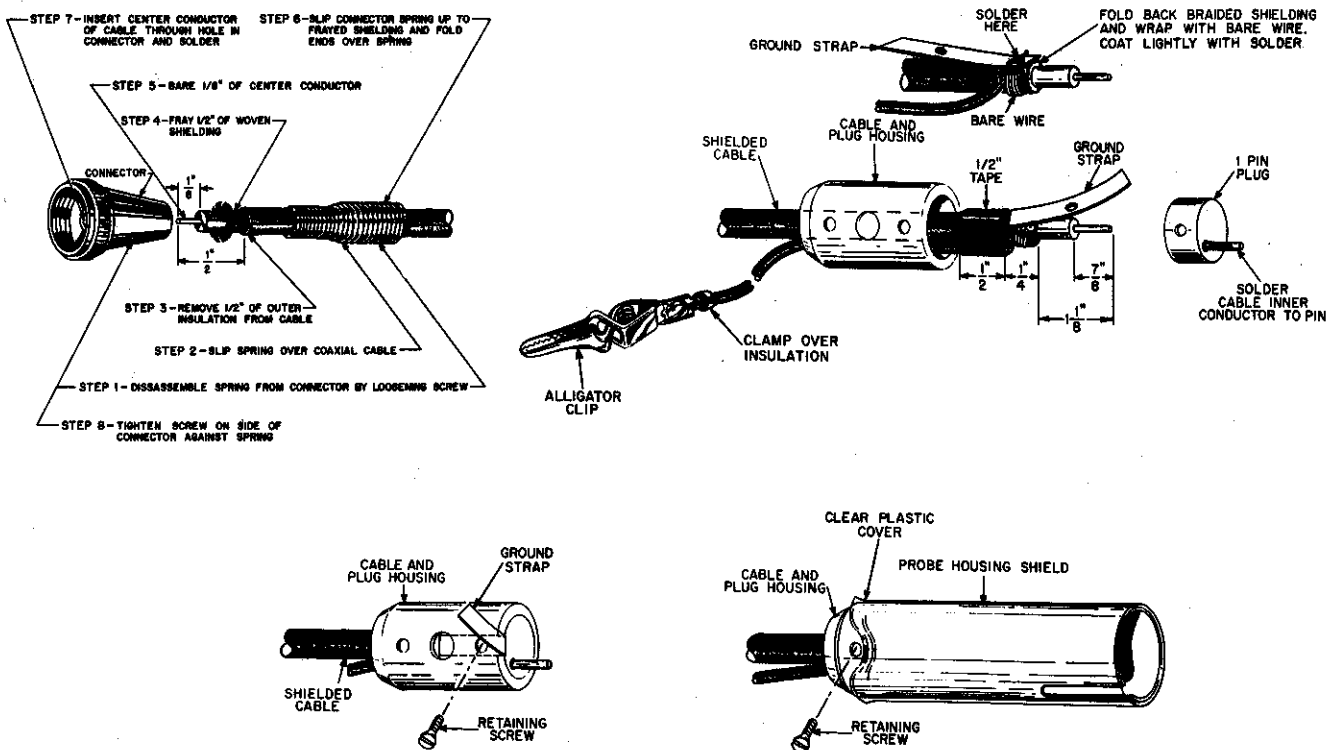

FIGURE 3. CABLE ASSEMBLY
SEE FIGURE 3.
- ✓ Attach the connector to one end of the cable as shown in Figure 3.